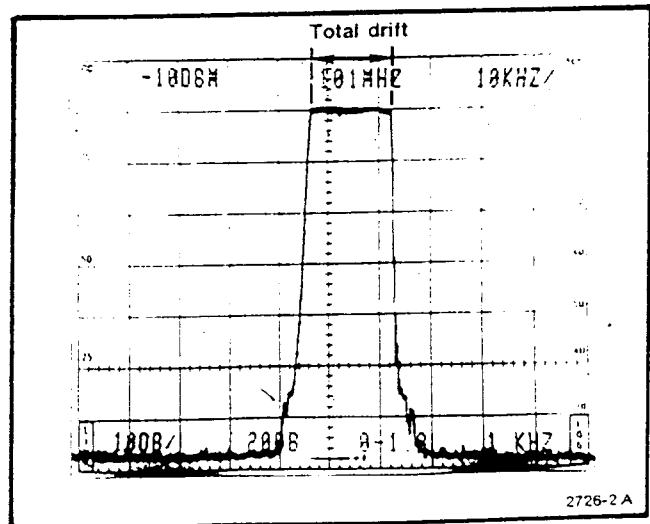

Fig. 3-6. Typical display using Digital Storage with MAX HOLD activated to measure drift.
e. Check frequency drift over the specified period. If the instrument has digital storage, activate MAX HOLD and measure drift as the increased width of the marker over the specified time period. (See Fig. 3-6.) If the instrument does not have digital storage, measure drift by observing the change in position of the marker over the time period.